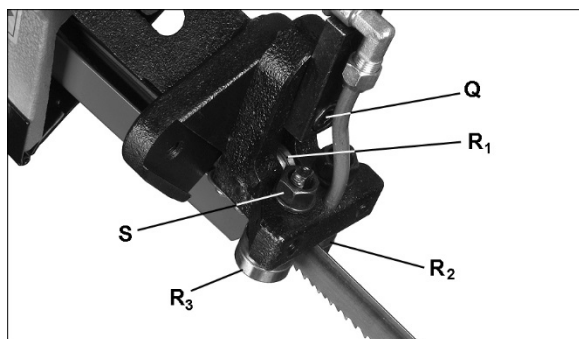

Figure 8-9: Blade Guide Setting
2. Loosen bolt (Q, Figure 8-9) and adjust assembly so that rear bearing (R_1) is approximately 0.002 to 0.003 inches from back of blade. Also, inside bearing (R_2) should very lightly contact blade. Tighten bolt (Q).
3. Inside bearing (R_2) is fixed. Outside bearing (R_3) rotates on an eccentric shaft. Rotate nut (S) with 14mm wrench to adjust eccentric bearing to a clearance of 0.001 inches from blade.
3. If there is a gap, loosen bolt (Q, Figure 8-9) on each blade guide assembly and rotate blade guide assembly until gap is eliminated between square and ruler.
4. Retighten bolts (Q, Figure 8-9).